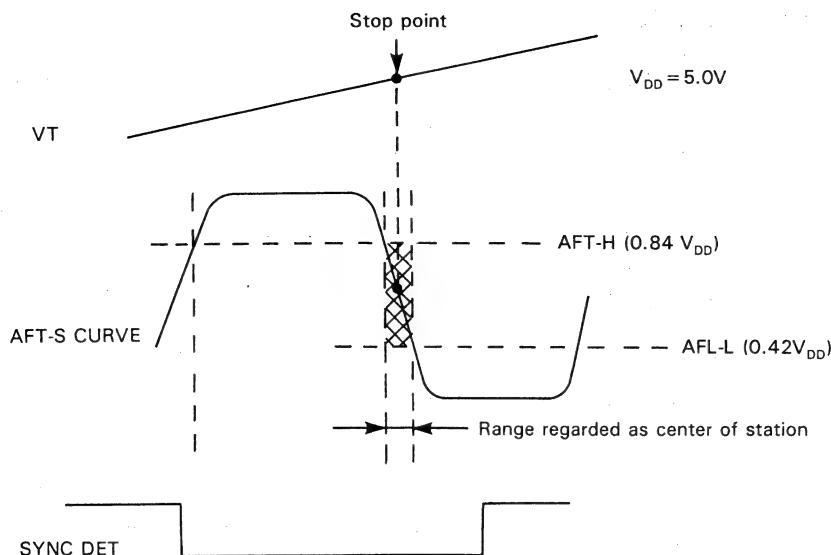

Figure 6-8. AFT-S curve at searching
Fig. 6-8 shows AFT curve and the timing of synchronizing identification signal at searching. AFT-S curve is fed into A/D input terminal pin ④ of IC1401. Higher section than (AFT-H), lower section than (AFT-L) and middle section in between are detected, and the range regarded as the center of station is searched.
- ① VT (IC1401 pin ⑩) voltage is raised at fast speed until it is detected that synchronizing detecting = "L" (IC1404 pin ⑩ SYNC DET) and AFT-S curve level (IC1401 pin ④) is higher than AFT-H (0.84 Vdd).
- ② VT is raised at slow speed until it is detected that AFT-S curve level (IC1401 pin ④) is lower than AFT-L.
- ③ With VT being lowered by minimal step, AFT-S curve level is detected becoming higher than AFT-L. VT data at this time is "A".
- ④ With VT being lowered by minimal step, AFT-S curve level is detected becoming higher than AFTL-H. VT data at this time is "B".